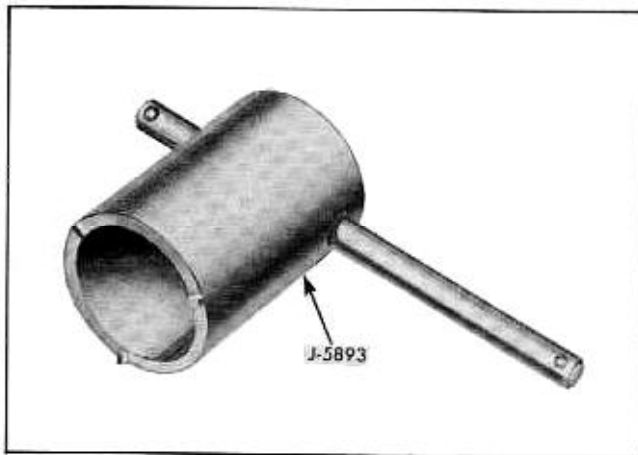

Fig. 12-45 Ignition Switch Ferrule Spanner
2. Remove ignition switch ferrule by unscrewing with special spanner J-5893 (Fig. 12-45).